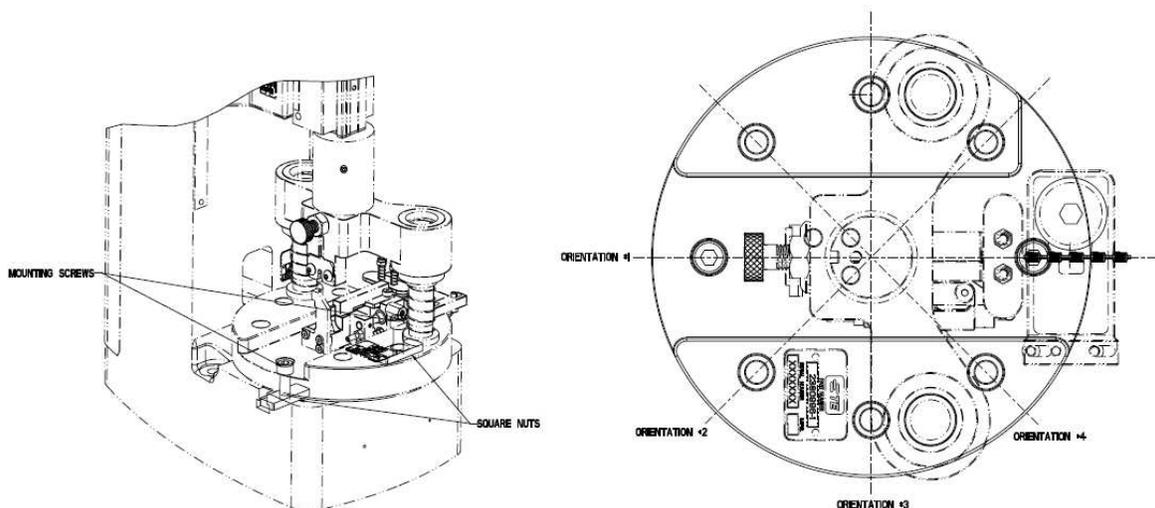

Figure 12
- (1) Four tooling pack mounting orientations are possible. The orientation can be adjusted by moving the mounting screw and square nuts to a different mounting hole location (Figure 12).